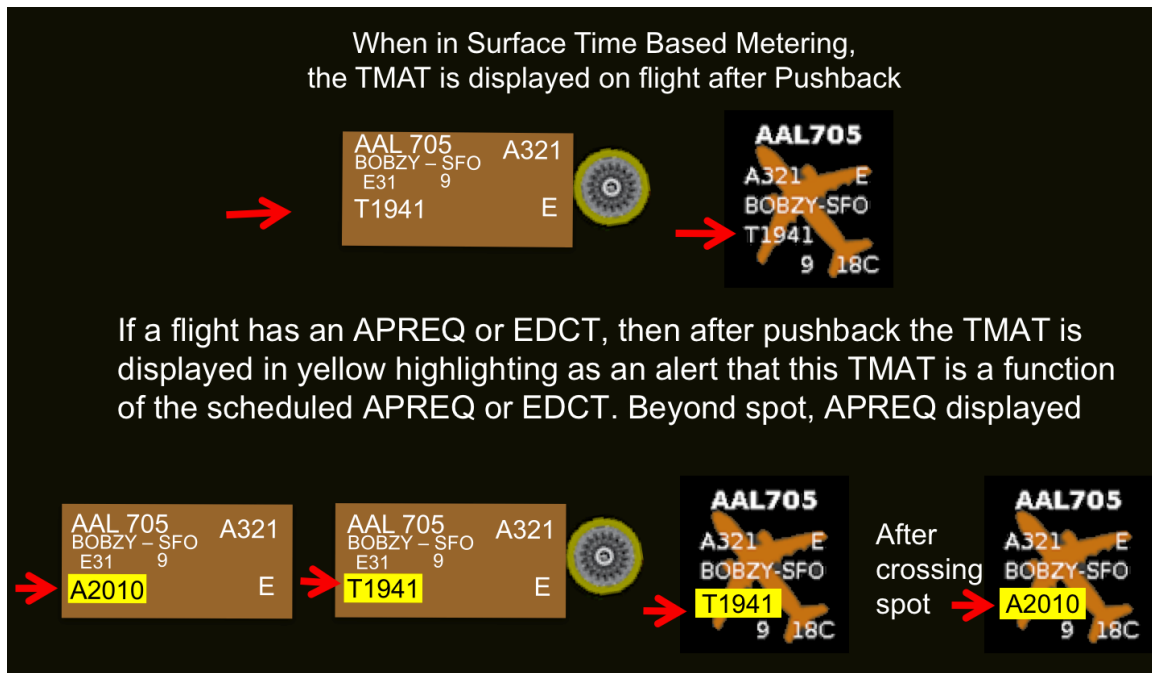

Figure 4.5. TMAT After Pushback (Yellow if TMI).
- Flights that are subject to metering will have TMAT displayed after pushback, without the yellow highlighting (see the top of Figure 4.5). EDCT flights display the EDCT time on the flight in a yellow text box "**Ehhmm**".
- Flights with both EDCT and APREQ show "**EhhmmQ**" while wheels-up time is not scheduled. On receipt of wheels-up time by the system, the EDCT is replaced and only "**Ahhmm**" is shown. After pushback, flights with an EDCT or a scheduled APREQ will be shown with TMAT highlighted in yellow in the format "**Thhmm**". This will be shown until the flight has reached the designated spot; beyond that "**Ahhmm**" is shown (see the bottom of Figure 4.5).
APREQ and EDCT flights will always have a recommended hold time as shown in Figure 4.5, based on the release time (i.e., APREQ/CFR release time or EDCT time). Recommended hold times and how they are displayed is discussed in greater detail in the Metering Modes section, Section 6.